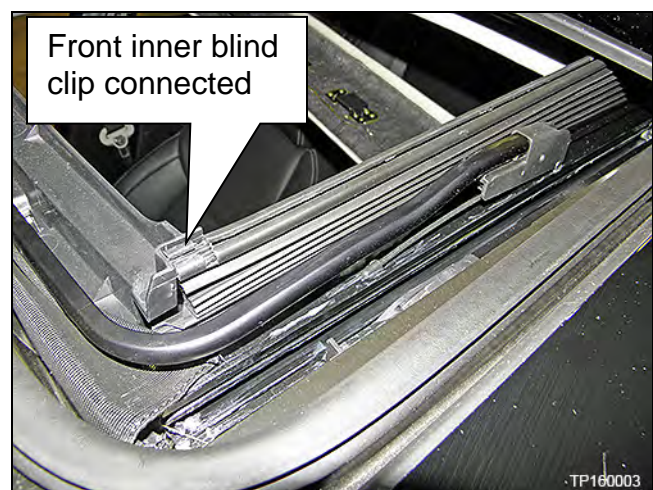

Figure 63
- b. Reconnect the front clip of the inner blind to the front corner of the Moonroof frame (Figure 63).